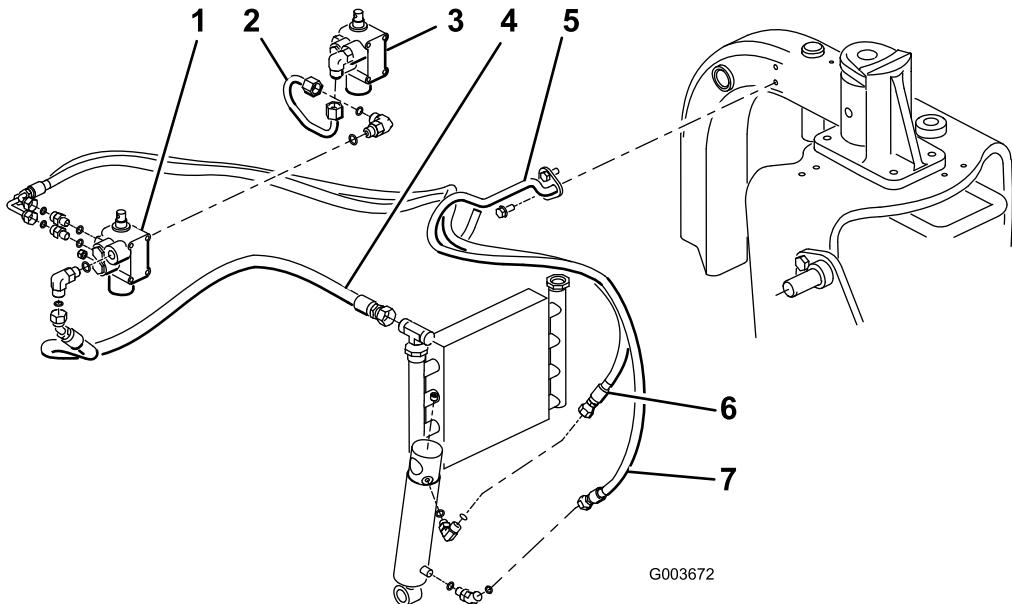

Figure 14
or cap the fitting on the cooler using one of the protective shipping caps removed from the tube assembly, part no. 108-8447 (Figure 14).
4. Connect the tube assembly, part no. 108-8447, to the 90 degree fitting on the left side of the new valve and the vacated fitting on the existing lift valve (Figure 14).
right side of the valve and the straight end of the hose to the vacant oil cooler fitting (Figure 14). Refer to Figure 15 and Figure 16 for hose routing.
6. Mount the wire hose holder to the left frame tube with 2 thread forming screws (5/16 x 3/4 inch) (Figure 14).
7. Connect the short 90 degree fitting end of hydraulic hose, part no. 108-8453, to the top straight fitting on the rear of the valve. Route the hose through the wire hose holder and connect the straight end of the hose to the top hydraulic cylinder fitting (Figure 14). Refer to Figure 15 and Figure 16 for hose routing.
8. Connect the long 90 degree fitting end of hydraulic hose, part no. 108-8454, to the bottom straight fitting on the rear of the valve. Route the hose through the wire hose holder and connect the straight end of the hose to the bottom hydraulic cylinder fitting (Figure 14). Refer to Figure 15 and Figure 16 for hose routing. Make sure hoses are routed away from any sharp, hot or moving components.